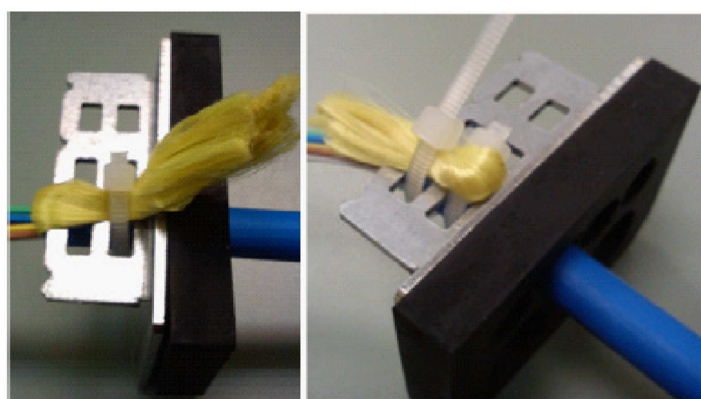

Figure 37
- 1.8.4 Go around the metal support and pass through the bracket holes. The assembly should remain as shown in Fig. 37;